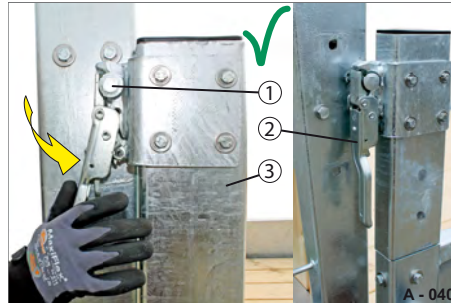

Fig. 42 Securing the drive-up ramp
- ▶ If necessary, slide the ramp outwards towards the corner post (Fig. 42/3).
- ▶ Insert the gudgeon (Fig. 42/1) on the ramp in the securing latch (Fig. 42/2).